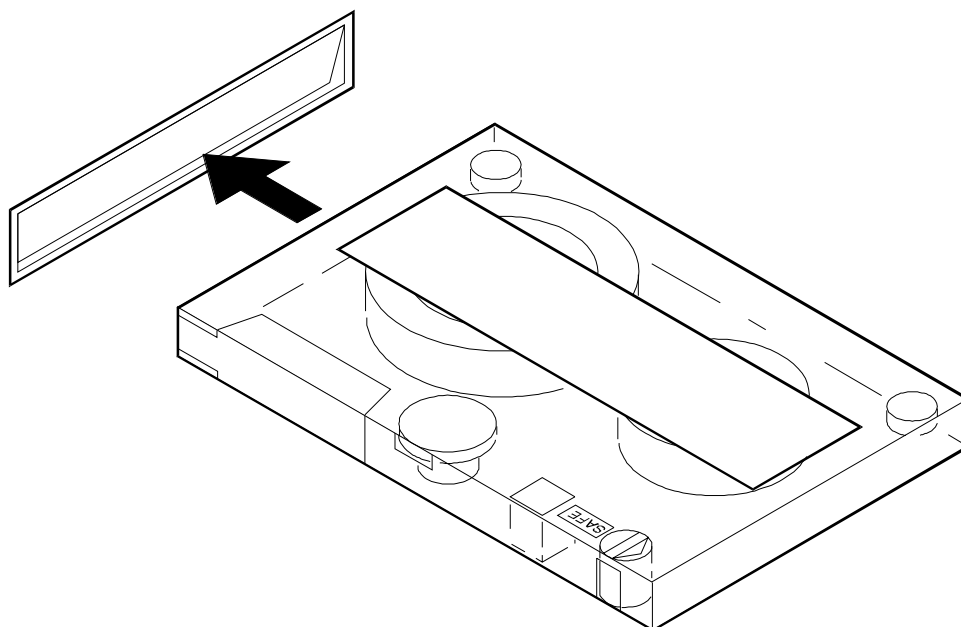

Figure 3-3. Tape Insertion with a 525-Mbyte Tape Drive
3. Insert the tape firmly and the door locks automatically (Figure 3-3).